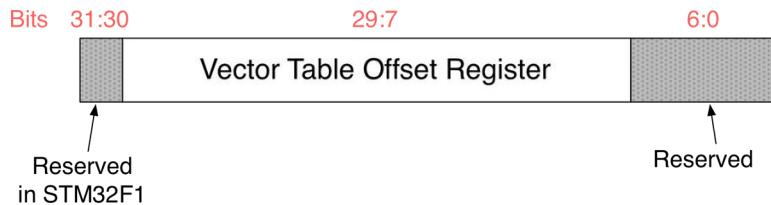

Figure 2: The structure of the VTOR register
- In STM32F1 MCUs, which are based on the Cortex-M3 r1p0 core revision, the bits [31:30] of the VTOR register are reserved (see Figure 2) and hence it is possible to relocate the *vector table* only in the code memory (0x0000 0000) and in SRAM (0x2000 0000).